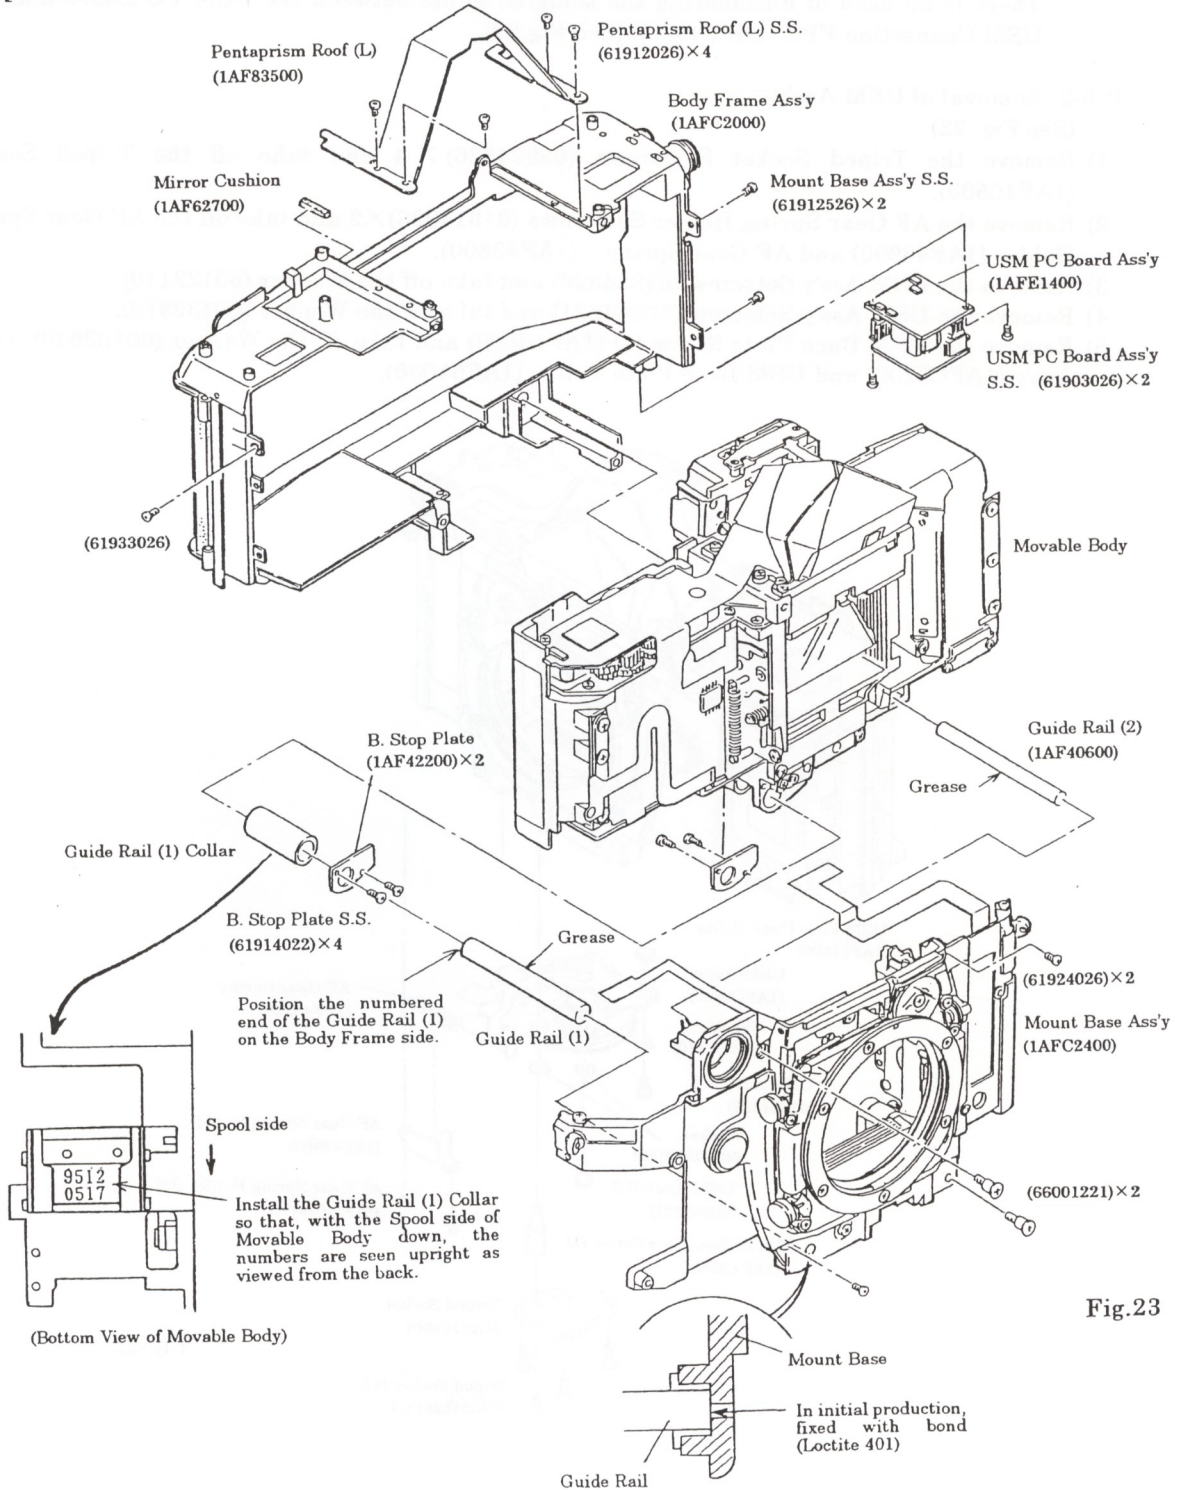
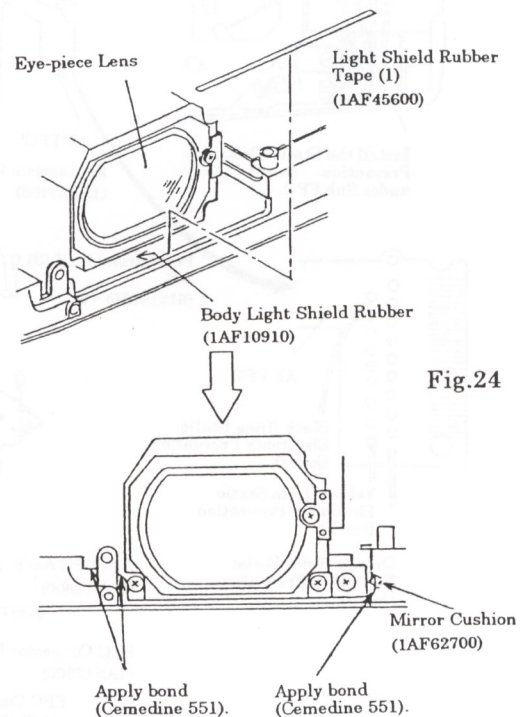

Fig.23
Fig.24
- 2) Remove the USM PC Board Ass'y Setscrews (61903026)×2 and take off the USM PC Board Ass'y (1AFE1400). (See Fig.23)
(See Fig. 23)
- 1) Remove the Pentaprism Roof (L) Setscrews (61912026) × 4 and take off the Pentaprism Roof (L) (1AF83500).
- The Body Light Shield Rubber (1AF10910) is fixed to the Body Frame with the Light Shield Rubber Tape (1) (1AF45600) and the bond (Cemedine 551). (See Fig.24)
- 4) Remove the Guide Rail (2) (1AF40600) and Guide Rail (1) from the Mount Base Ass'y.
- 5) Remove the B. Stop Plate Setscrews (61914022) × 4 and take off the B. Stop Plates (1AF42200) × 2 and Guide Rail (1) Collar from the Movable Body.
- In the camera at the early stage of production, the Guide Rail (1) and Guide Rail (2) are fixed to the Mount Base Ass'y with the bond (Loctite 401). In the camera with the permanent measures, the Guide Rail (1) and Guide Rail (2) are press-fit in the Mount Base Ass'y.
- To ensure the high-accuracy and smooth sliding of the Movable Body, make certain that the Guide Rails and Guide Rail (1) Collar installed are marked with the same number. A Guide Rail (1) and a Guide Rail (1) Collar, in a pair, constitute a Guide Rail Ass'y (1AF41300).
- Clean the Guide Rail (1) and Guide Rail (2) with lens cleaning paper with ether alcohol first and then apply the Grease (LOGENEST LAMBDA A-74). After that, install the relevant parts so that the numbers stamped on the Guide Rail (1) and Guide Rail (1) Collar is positioned as shown in Fig. 23.
(See Fig. 24)